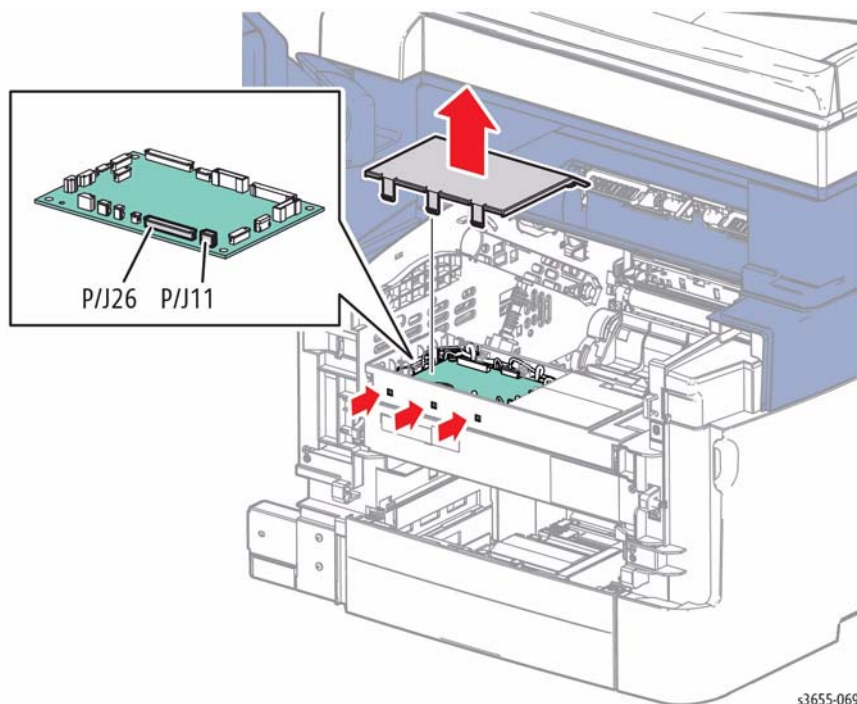

Figure 1 Disconnect the MCU Board
4. Refer to Figure 1 to locate and release 3 hooks that secure the MCU Board cover. Remove the cover then disconnect all MCB Board connections except PJ11 and 26.